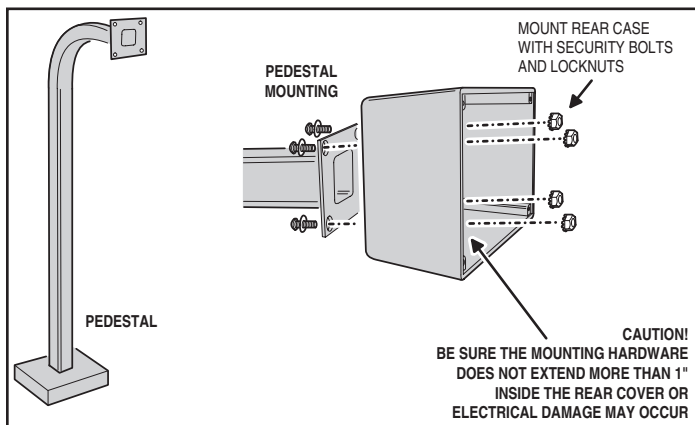

Figure 2. Pedestal Mounting
2. Use four security bolts and locking nuts to secure the backplate to the pedestal (see Figure 2).